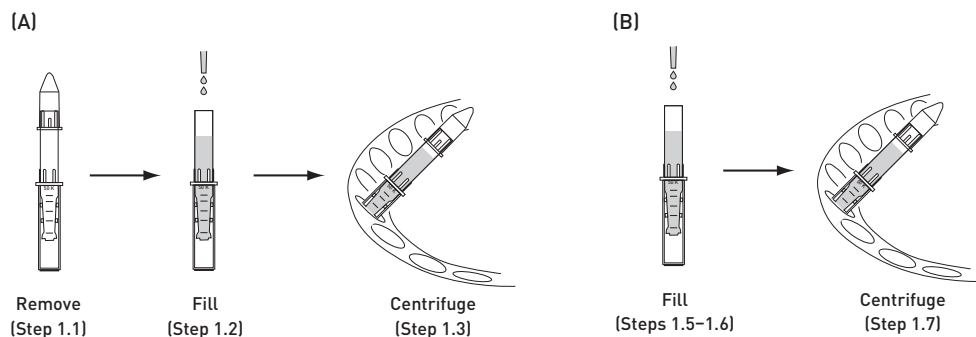

Figure 2 Antibody concentration and/or buffer exchange. (A) Wash the antibody concentrator; (B) Concentrate the antibody.
- 1.2 Add 2 mL of dH₂O to the small antibody concentrator (Component B) and cap the device as shown in Figure 2 A (page 4).
- 1.5 Add a sufficient volume of antibody solution to contain 5 mg of antibody to the small antibody concentrator (Component B) as shown in Figure 2 B.